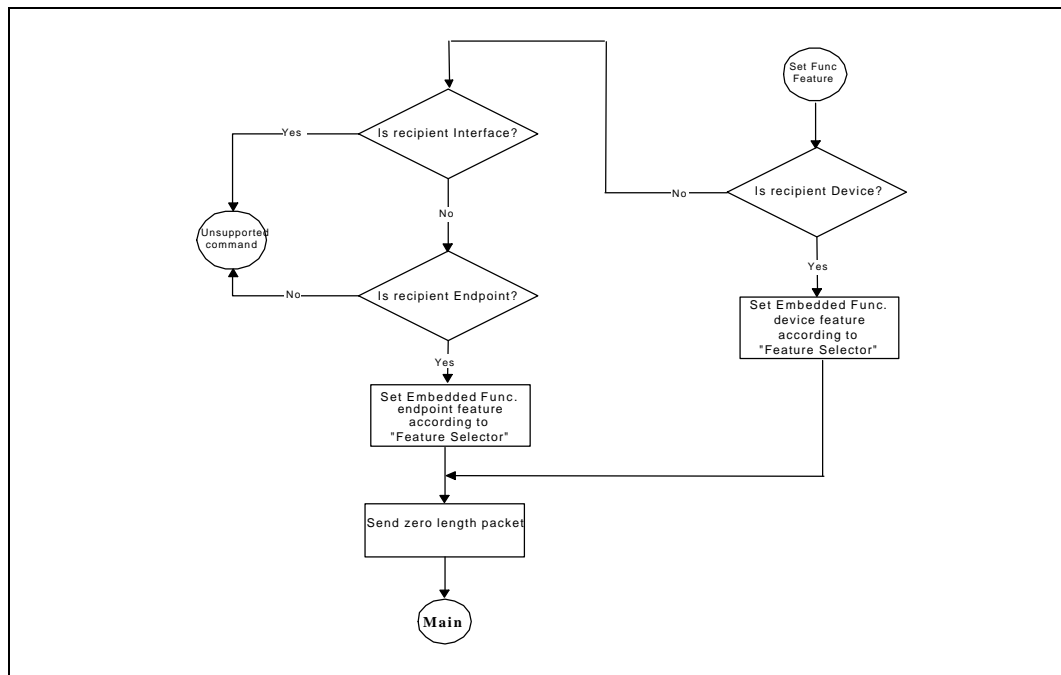

Figure 27: Embedded Function Set Feature Standard Command
- Set Function Feature (Figure 27)